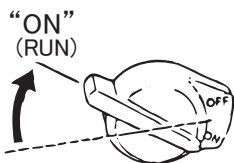

Fig. 14
2. Turn the stop switch to "ON (I)" position. (Fig. 14)